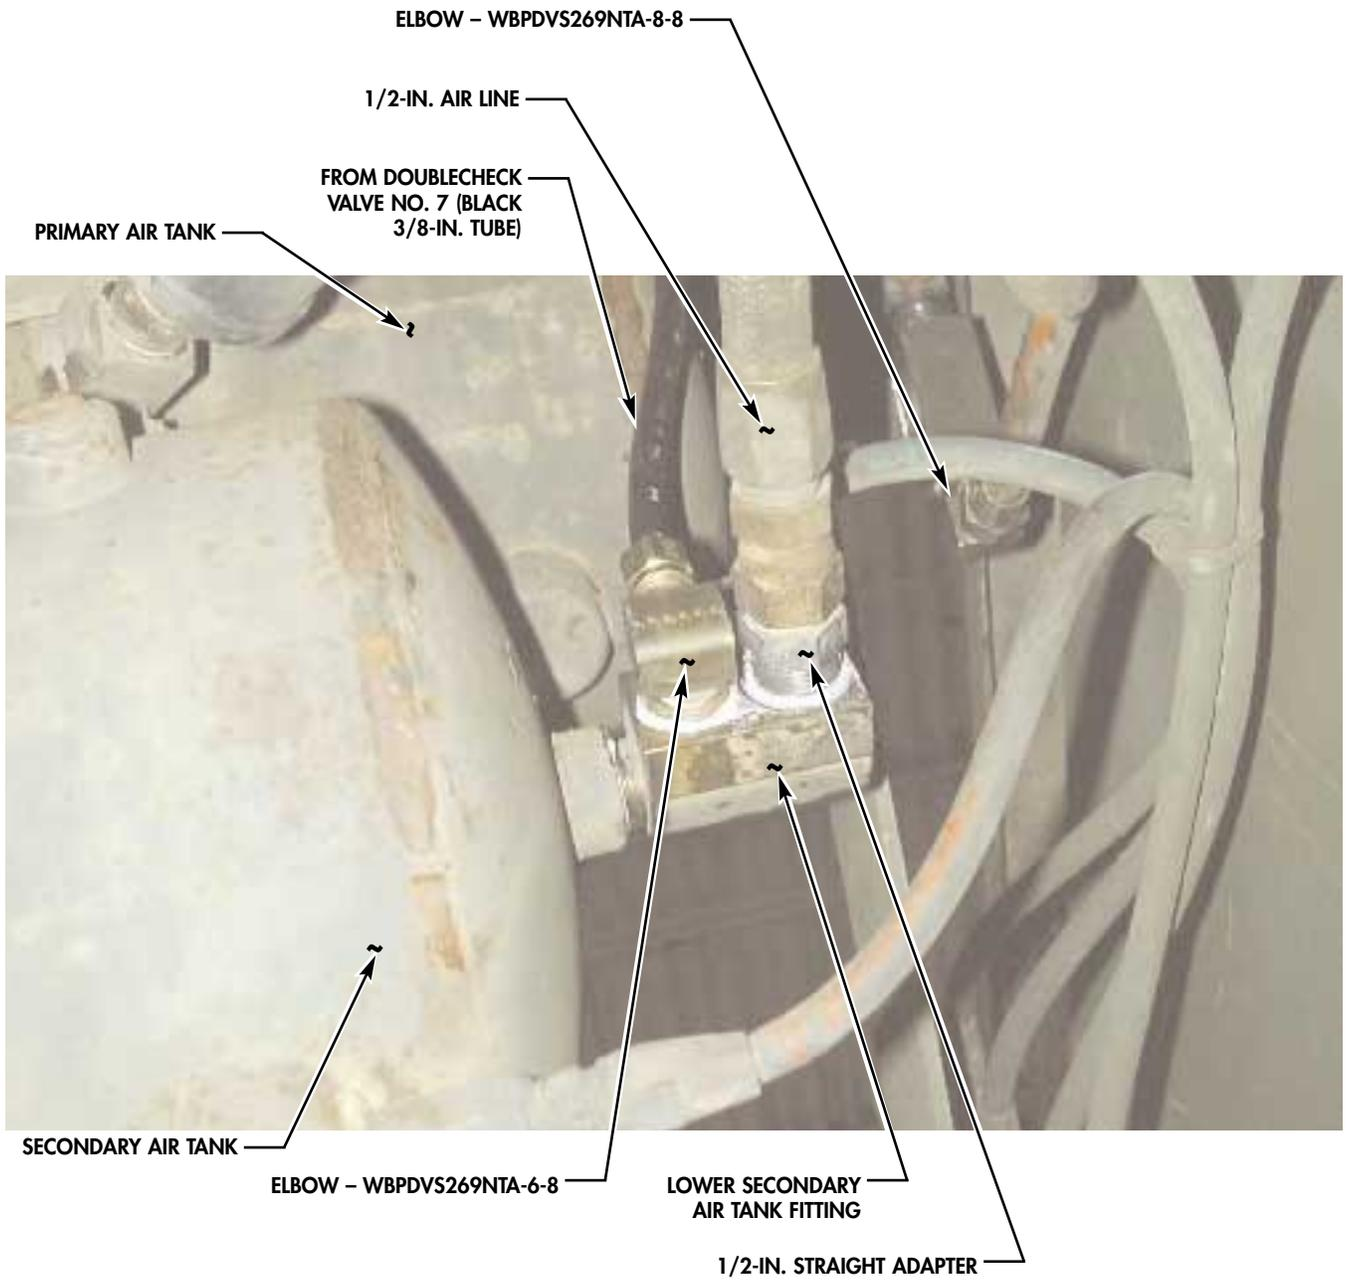

FIGURE 3. CORRECT (VIEWED FROM BOTTOM)
e. Install elbow WBPDVS269NTA-6-8 on lower secondary air tank fitting as shown in figure 3.
f. Install 1/2-in. straight adapter on lower secondary air tank fitting as shown in figure 3.
g. Connect black 3/8-in. tube to elbow WBPDVS269NTA-6-8 on lower secondary air tank fitting as shown in figure 3.
h. Connect 1/2-in. air line to 1/2-in. straight adapter on lower secondary air tank fitting as shown in figure 3.